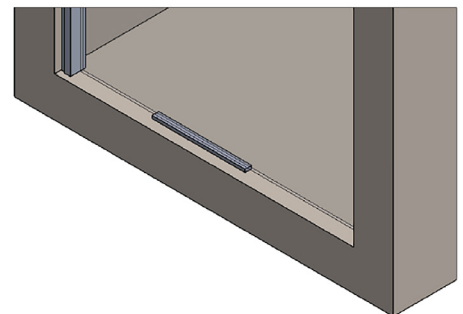

FIGURE 8
Set 7/16" spacer on center of base for spacing and safety. Set door on top of spacer and position Hinge Jamb (B) over the Wall Jamb (A). Using two people (1 person inside, 1 outside), slide Hinge Jamb (B) over Wall Jamb (A) carefully until fully compressed. (See Figure 8) Wood Block should still be under the Glass Door (K).